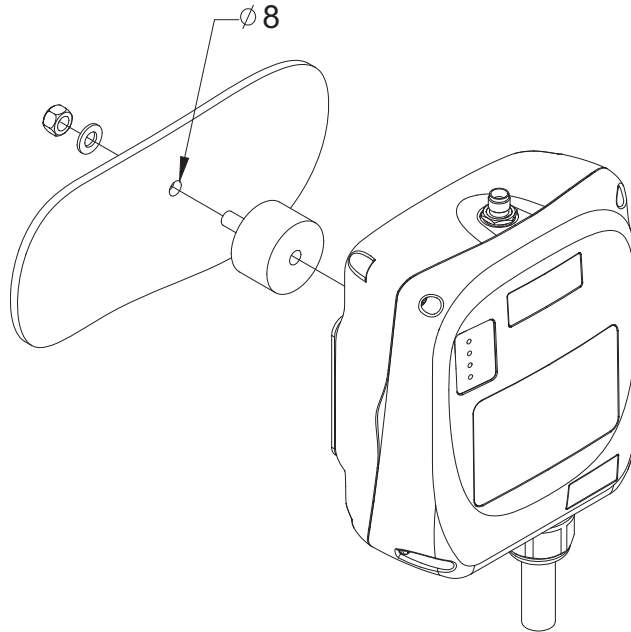

Fig. 18
6. Drill one hole (8 mm in diameter) on the control panel or location where the receiver is to be installed (**see Fig. 18**).